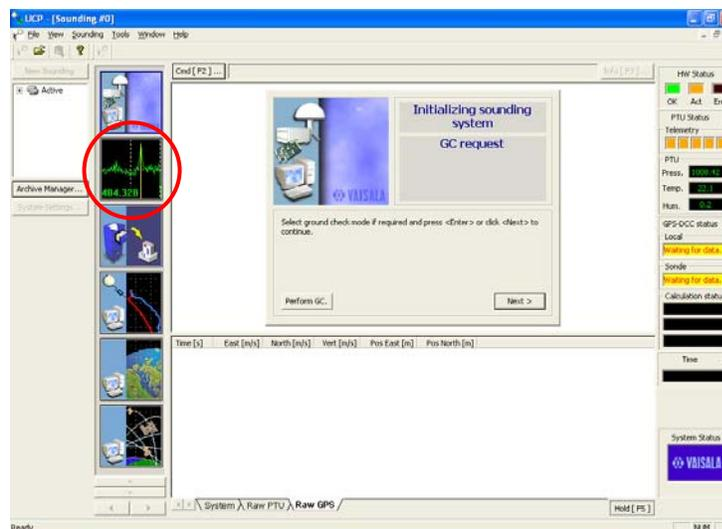
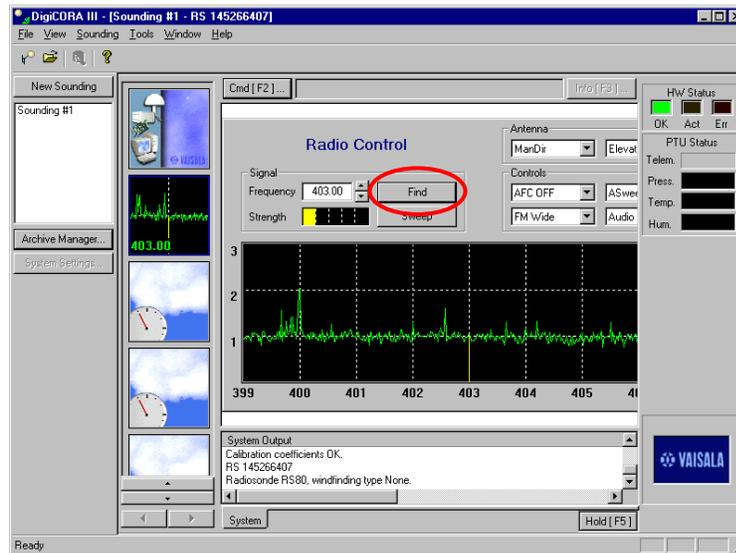

Figure 9
Figure 10
32. The DigiCORA system should find the radio signal from the RS92. To ensure this, click on the spectrum window (see Figure 9) and then click on "Find" (see Figure 10) so that the DigiCORA III can receive the signal.